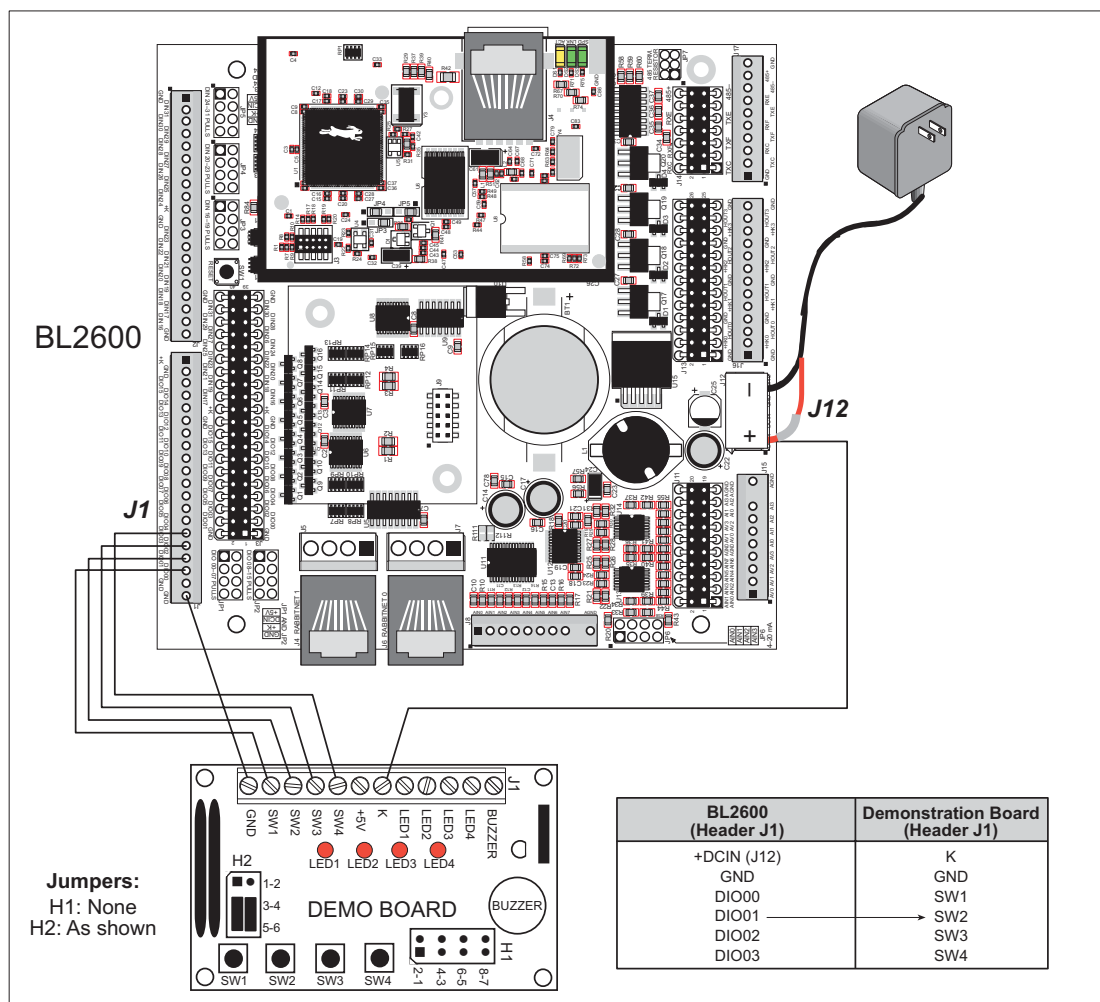
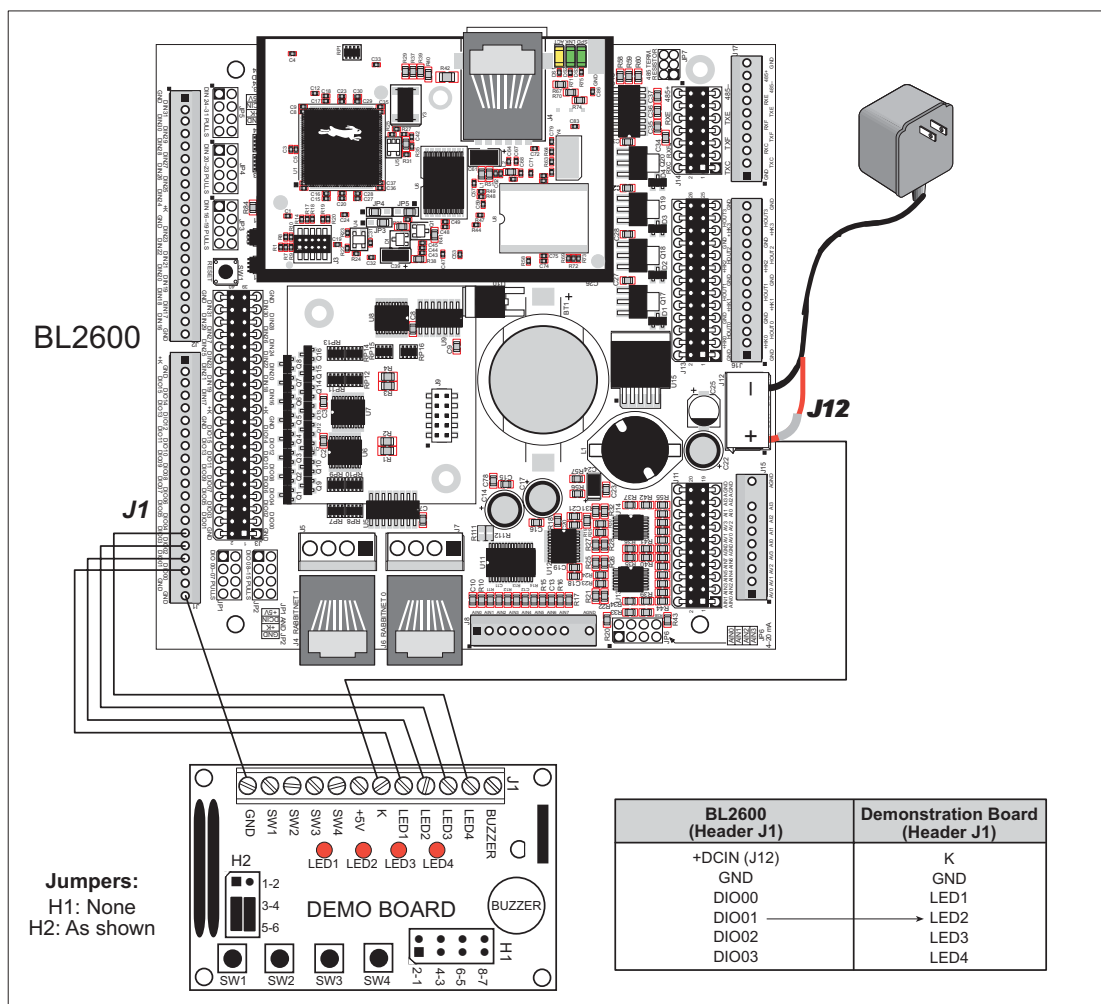
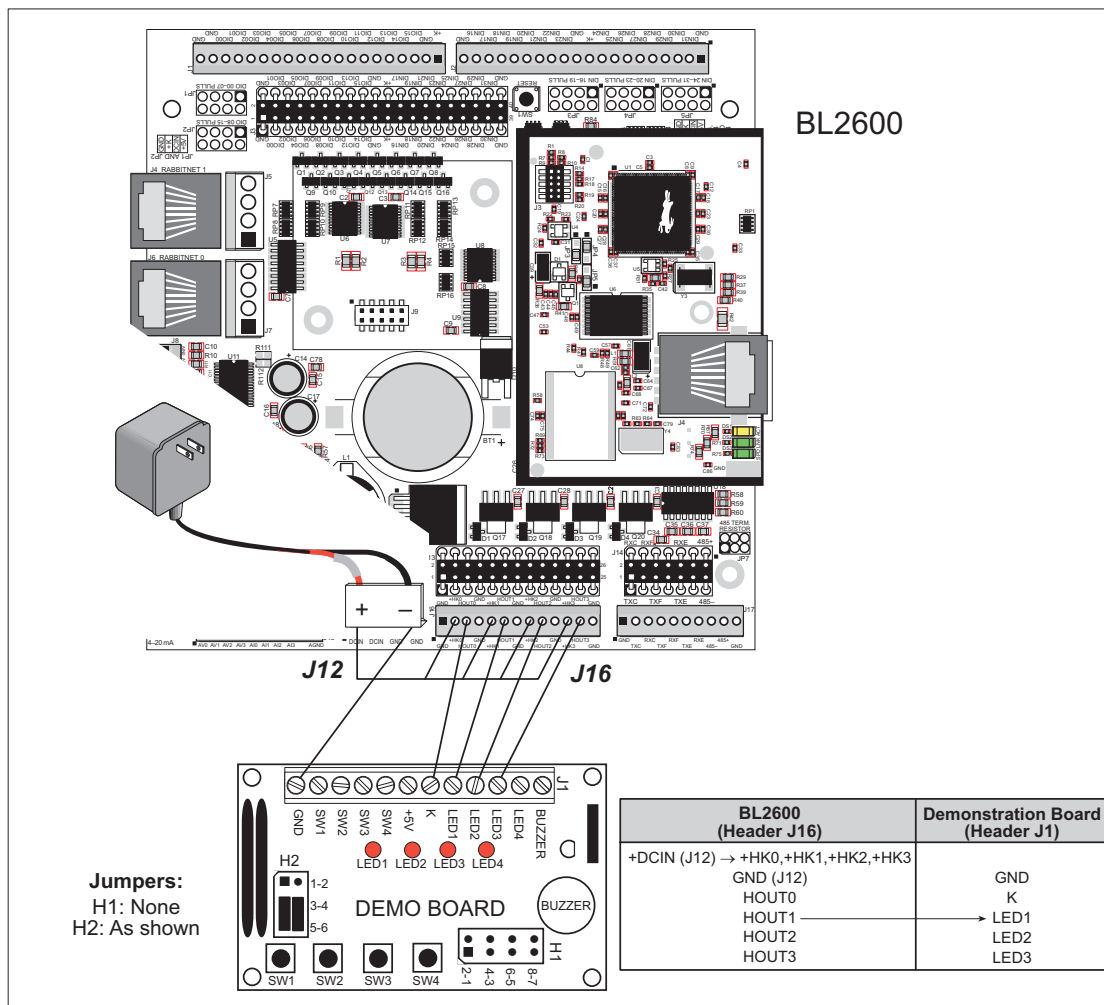

Figure C-1. General Digital Input Connections Between BL2600 and Demonstration Board
Figure C-2. Digital Output Connections Between BL2600 and Demonstration Board
Figure C-3. HIGH_CURRENT_IO.C Connections Between BL2600 and Demonstration Board
1. Use the wires included in the BL2600 Tool Kit to connect header J1 on the Demonstration Board to screw-terminal headers J1 and J12 on the BL2600. The connections are shown in Figure C-1 for sample program **DIGIN.C** and for sample program **SMTP.C**, in Figure C-2 for sample program **DIGOUT.C** and for sample program **SSI.C**, and in Figure C-3 for sample program **HIGH_CURRENT_IO.C**.
NOTE: +HK0...+HK3 on header J16 must be connected to +DCIN on friction-lock connector J12 as shown in Figure C-3.